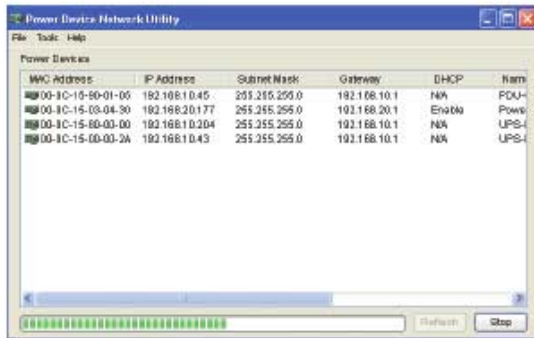

Figure 4: Equipment List
Step 1: Select the appropriate PDU device from the Equipment List [Figure 4].